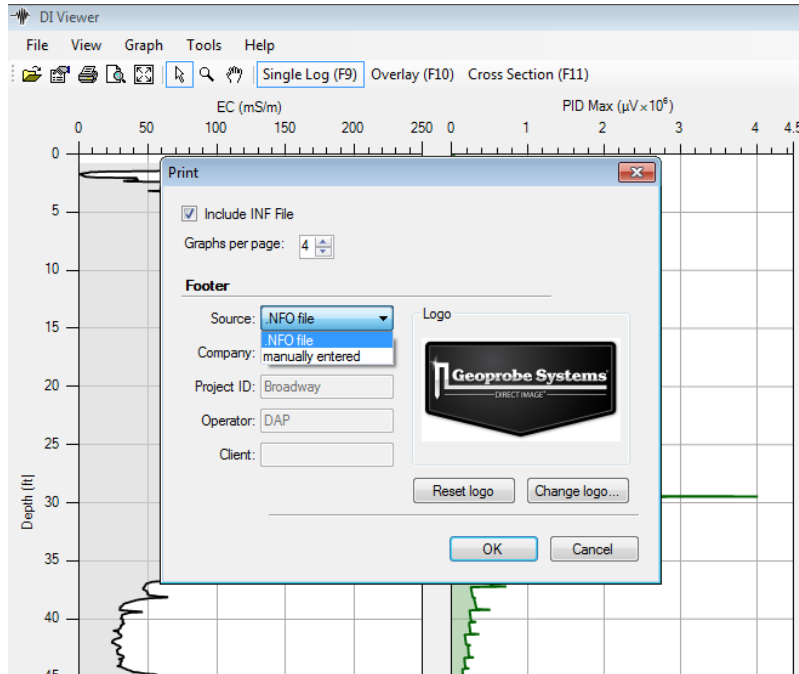

Figure 44: Selecting Print Options
4. When ready to print, the user will need to choose whether they want to print the log and the .NFO report or just the log. This is managed by the check box that states *Include INF File* (Figure 44).
5. If the user wants to use the site information that was entered at the time of logging select *Footer – Source: .NFO file*. View this in print preview and use the magnifying glass (zoom) to get a better look at the footer text. If a different description for the Log footer information is desired select *Source: – manually entered* (Figure 44).
8. Change the logo for the printout by selecting *Change Logo...* (Figure 44). The company logo must be in any picture format. The logo can also be changed in the *Properties* Tab which is the second icon on the toolbar next to the open folder icon. To replace the existing logo, select *Change Logo* and direct the computer to the folder where the desired logo is stored. Select the desired logo for the logs.
3. To print the NFO/INF file make sure that the *Include INF File* box is checked when going through the print process (Figure 44).